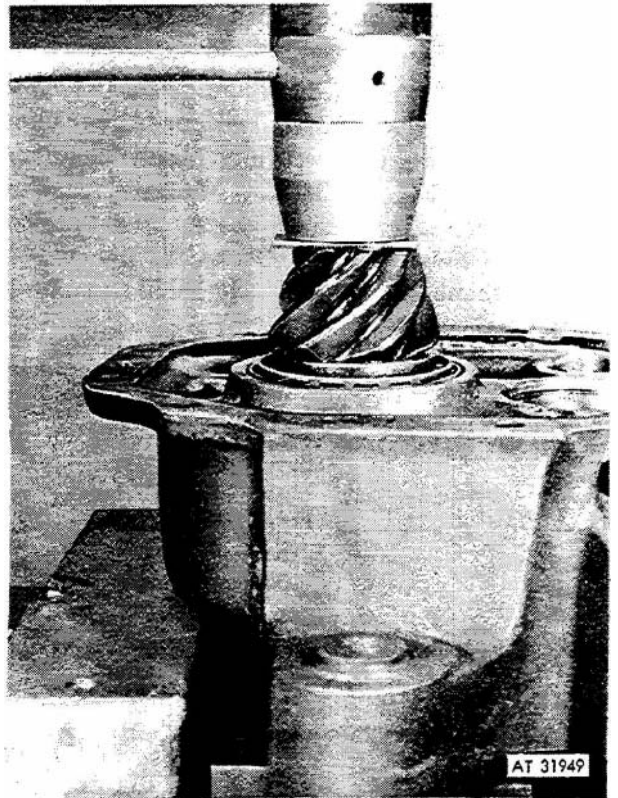

*Figure 3-151. Pressing bearing on center differential pinion.*
(13) Press bearing (30, fig 3-133) on pinion (fig 3-151). Position spacer (28, fig 3-133) on pinion.